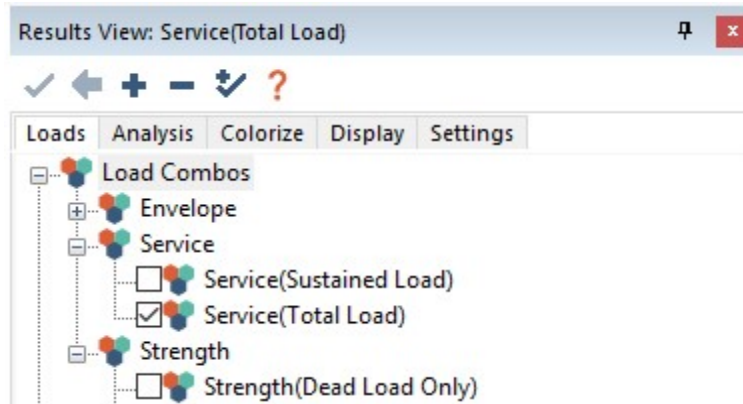

FIGURE 6.8-6 RESULT DISPLAY SETTINGS DIALOGUE BOX
- For serviceability it is important to make a check for deflections in each direction. Select **Service (Total Load)** from the *Loads* tab of the *Results Browser* as shown in **Figure 6.8-6**. Change to the *Display* tab of the *Results Browser*. Set the *Maximum Span/Deflection Ratio, L/* value **240**. Change to the *Analysis* tab of the *Results Browser*. Expand the *Design Sections* → *Deformation* tree and select *Z-Translation*.